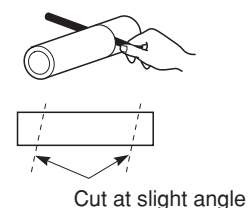

Fig. 3-17
- (5) Measure the thickness of the wall from the inside edge to the outside edge and cut the PVC pipe at a slight angle 6 mm shorter than the thickness of the wall. (Fig. 3-17)